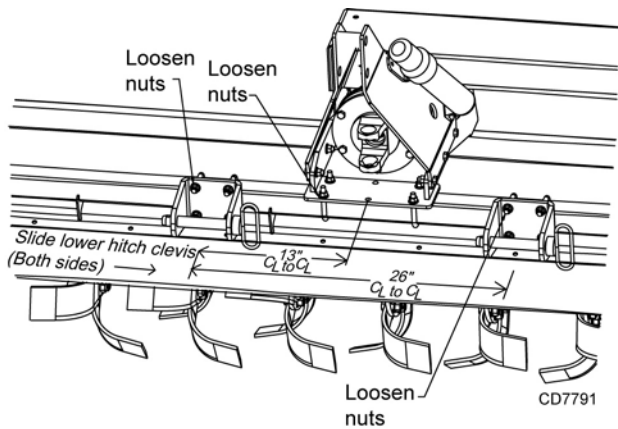

Figure 7. Clevis Hitch Adjustment
- Loosen nuts on U-bolts on lower clevis hitch (4), U-bolts on front gearbox stand (2), and bolts at the back of the gearbox stand (2). See Figures 7 and 8.